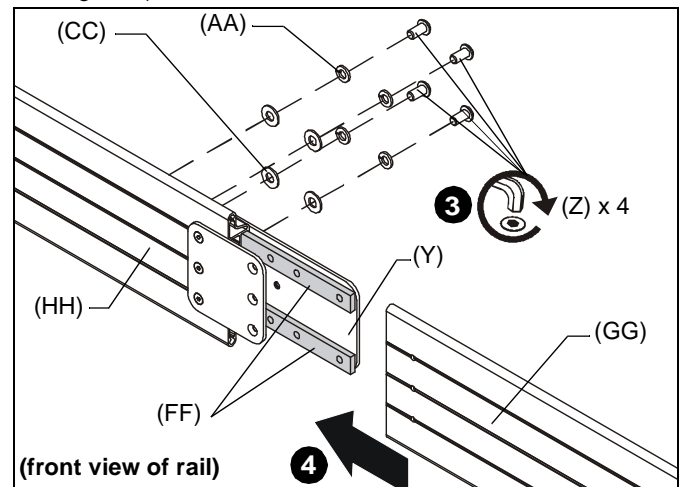

Figure 3
- Additionally fasten connector plate (Y) using four 5/16 x 5/8" button head cap screws (Z), four 5/16" split washers (AA), and four friction washers (CC). (See Figure 3)
- Slide one 60" section of mounting rail (GG) over tie bars (FF) and bring it flush to first section of mounting rail. (See Figure 3)